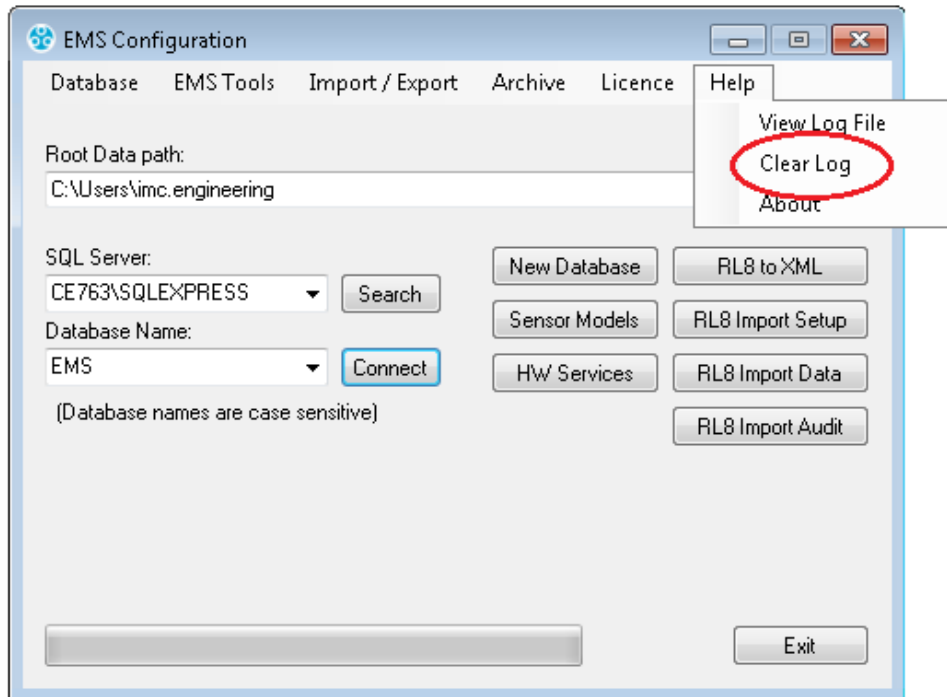

Figure 190
2. From the **Help** drop-down menu, select **Clear Log**. See Figure 190 below: